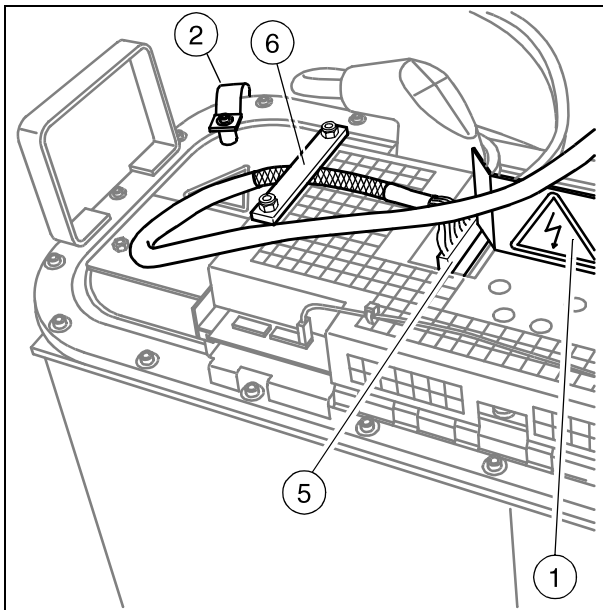

Fig. 23:
- Carefully remove the guard (with “Symbol ⚡ (1/ Fig. 23 / p. 37).
- Connect the protective ground wire band to H1. ⚡ (2/ Fig. 23 / p. 37).
- Plug in the cable I X1 from D100 on D220.X1 (5/ Fig. 23 / p. 37) and clamp the shielding braid beneath the strain relief (6/ Fig. 23 / p. 37).
- Fasten the guard (with “Symbol ⚡ (1/ Fig. 23 / p. 37).